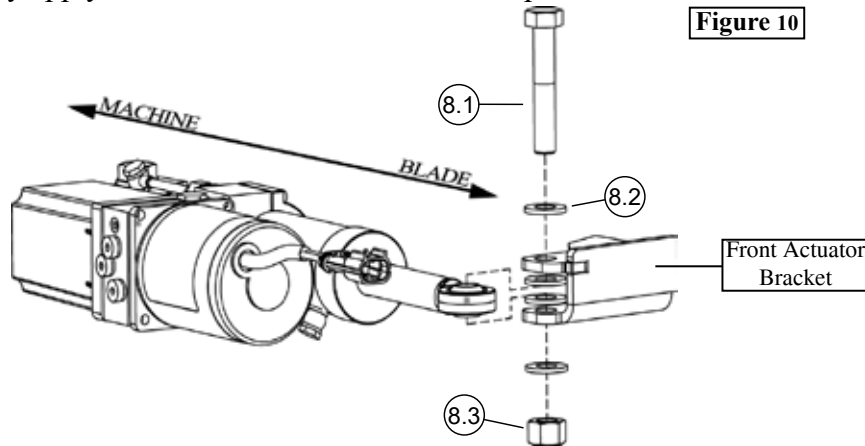
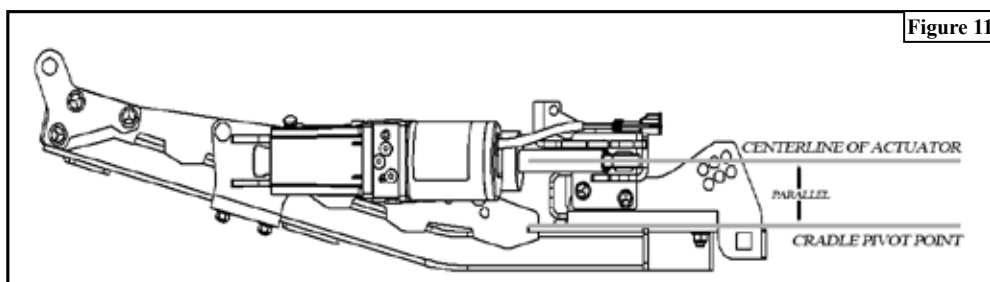

Figure 10
Figure 11
- Repeat previous step for mounting the front half of the actuator, as shown in Figure 10. It is most important that you use the washers to make sure that the actuator is parallel to the cradle swivel point, as shown in Figure 11. Both front, and rear bolts should not be tight, thread the nut on until Nylock is engaged.